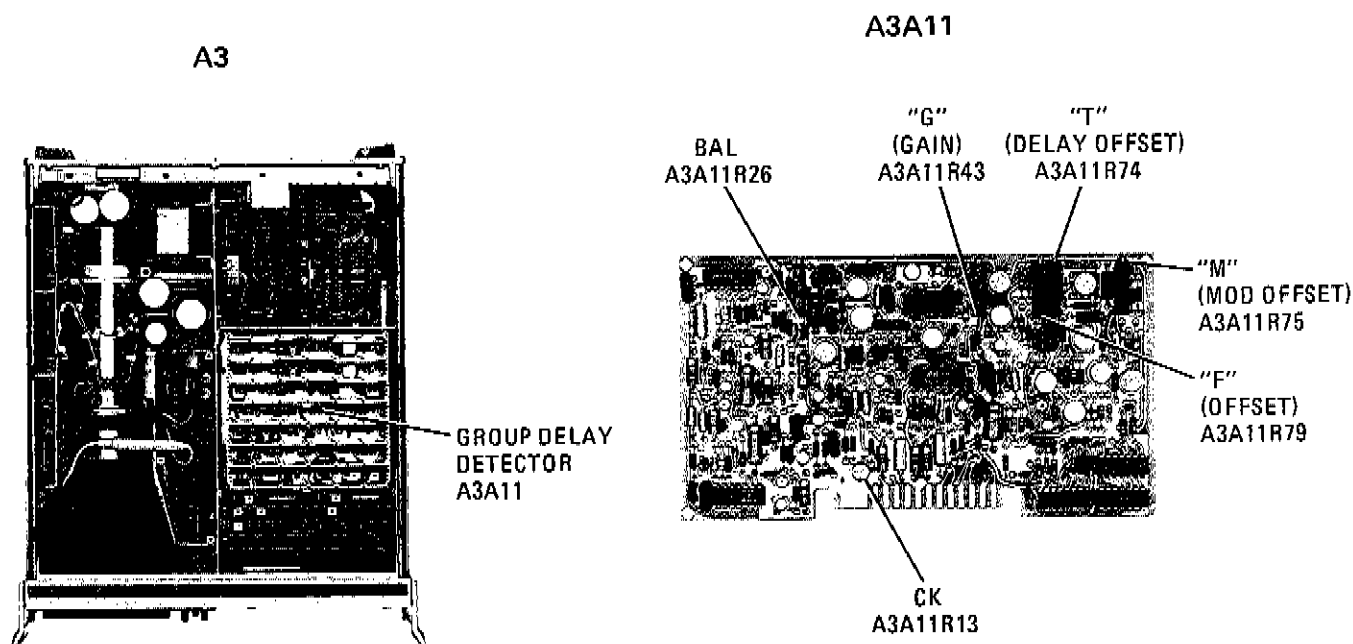

Figure A5-43. A3A11 Group Delay Adjustments Location
- c. Set A2 Frequency Control TRIGGER switch to EXT. Connect Frequency Counter (use a 10:1 scope probe to avoid loading circuit) to the Collector of Q13 and adjust "CK" 100 KHz clock control A3A11R13 (Figure A5-43) for 100 KHz  $\pm$  10 Hz (period of 10 $\mu$ s). If the range on the control is not enough to reach 100 KHz, select a value of A3A11R12 in the range of 10K to 40K that allows adjustment to 100 KHz.